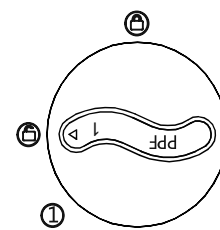

Figure 4
2. Insert the Sediment Cartridge in hole 1, the triangle icon on top of filter element should be pointed at the  icon(Figure 4).